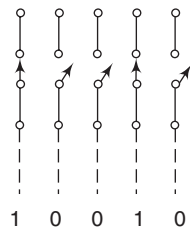

Fig. 1.10
1.5 An open switch represents 0 and a closed switch represents 1. What number do the switches in Fig. 1.10 represent?